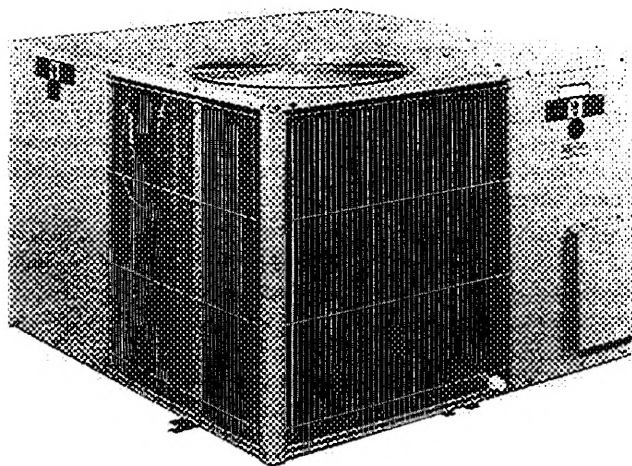

Fig. 1 — Typical 587A Small-Cabinet Unit (018-042)
1. Read and become familiar with these installation instructions before installing this unit (Fig. 1).